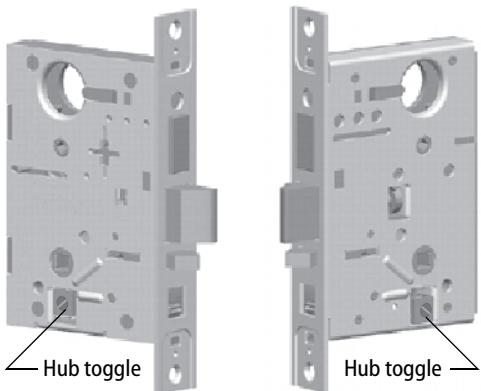

Figure 6 Positioning hub toggles
- Check whether the hub toggles are in the proper position for the lock. See the table below and Figure 6.